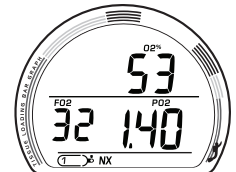

Fig. 11 - NORM/TECH SURF ALT 3
**NORM/TECH SURF ALT 3** (only if Nitrox, no screen if Air), information includes (Fig. 11):